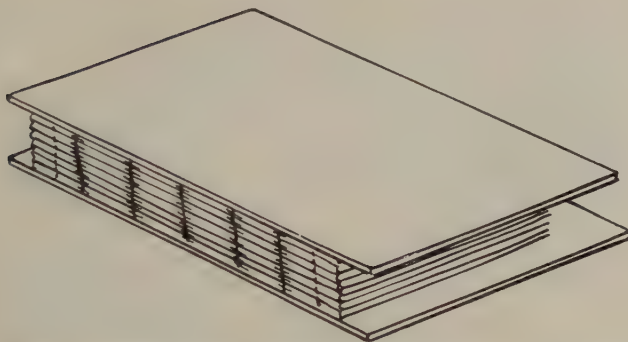

FIG. 199—TRIMMED BOOK JOGGED, WITH CARDBOARD PROTECTORS
2. Cut a pair of stiff boards slightly larger than the trimmed book and place one on either side with one long edge of boards *flush* with back edge of book. (Fig. 199.)